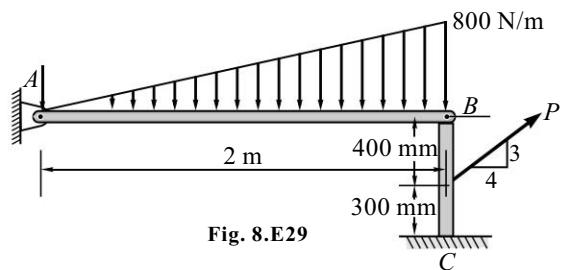

Fig. 8.E29
30. A 60 kg cupboard is to be shifted to the right, μ_s between cupboard and floor is 0.35, as shown in Fig. 8.E30. Determine